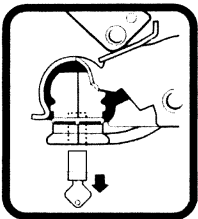
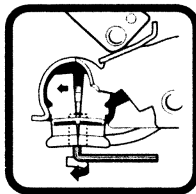

fig. 1
fig. 2
- 4.2. Insert the towball lock into the trailer coupling (fig. 1) and use the hex. key provided to expand the lock until it is firmly held in the coupling (fig. 2).